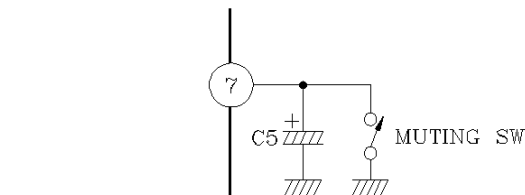

Fig. 3
Audio muting can be accomplished by connecting pin ⑦ (ripple filter) to GND as shown in Fig. 3.